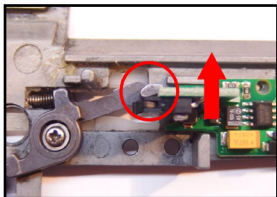

Fig. 2 - Keep cut off lever up during insertion processor unit
4. Move selector plate to the forward position where is cut off lever in the upper position - see Fig. 2. This is because of protection microswitch on processor unit.